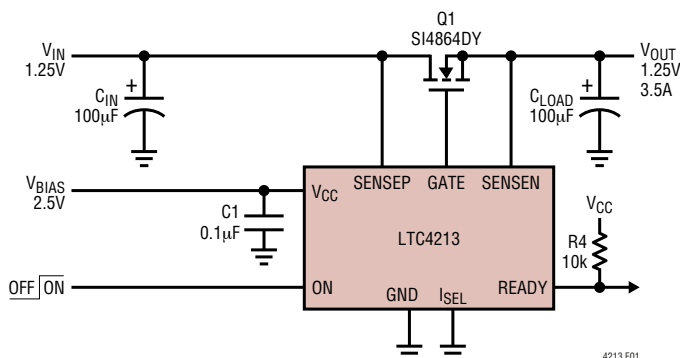
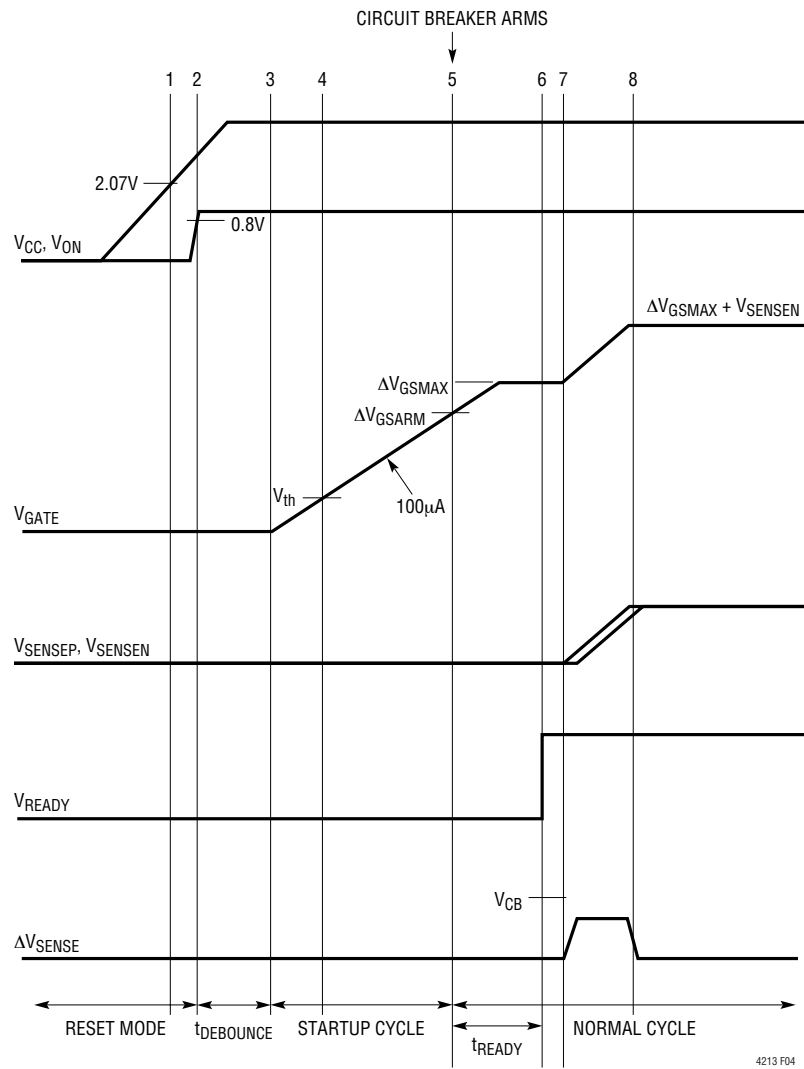
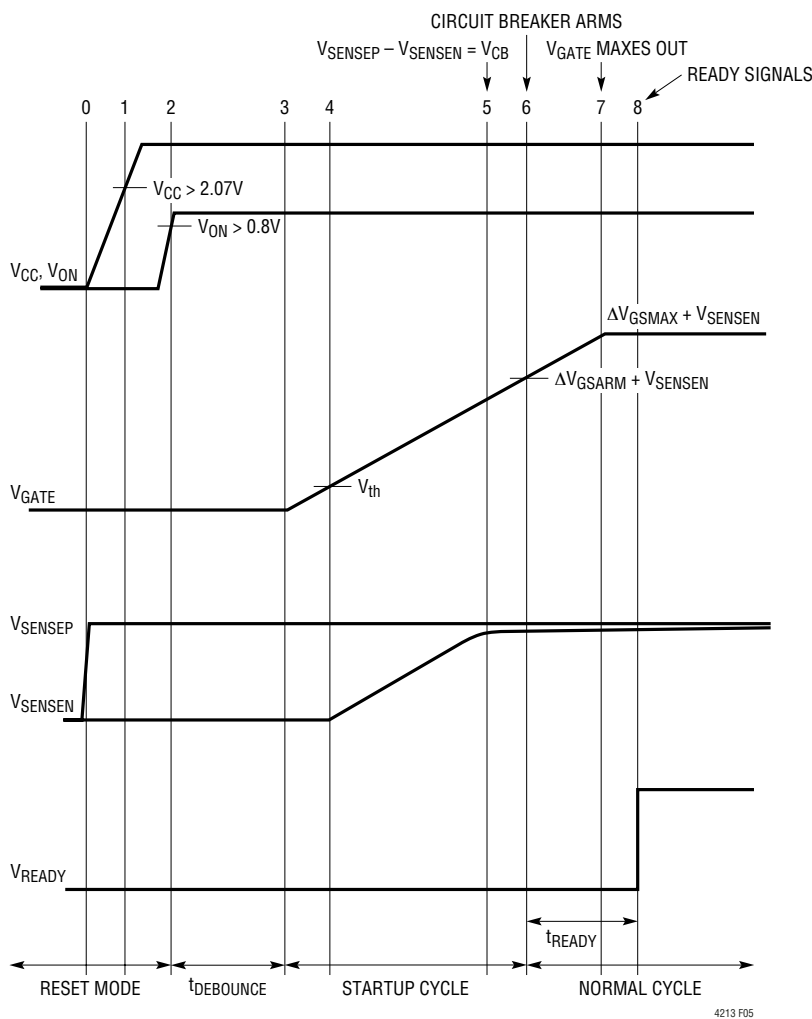

Figure 1. LTC4213 Electronic Circuit Breaker Application
Figure 4. Load Supply Power-Up After Circuit Breaker Armed
Figure 5. Load Supply Power-Up Before  $V_{CC}$
Figure 1 shows an electronic circuit breaker (ECB) application. An external auxiliary supply biases the  $V_{CC}$  pin and the internal circuitry. A  $V_{IN}$  load supply powers the load via an external MOSFET. The SENSEP and SENSEN pins
Figure 4 shows a normal power-up sequence for the circuit in Figure 1 where the  $V_{\text{IN}}$  load supply power-up after circuit breaker is armed.  $V_{\text{CC}}$  is first powered up by an auxiliary bias supply.  $V_{\text{CC}}$  rises above 2.07V at time point 1.  $V_{\text{ON}}$  exceeds 0.8V at time point 2. After a 60 $\mu\text{s}$  debounce delay, the GATE pin starts ramping up at time point 3. The external MOSFET starts conducting at time point 4. At time point 5,  $V_{\text{GATE}}$  exceed  $\Delta V_{\text{GS ARM}}$  and the circuit breaker is armed. After 50 $\mu\text{s}$  ( $t_{\text{READY}}$  delay), READY pulls high by an external resistor at time point 6. READY signals the  $V_{\text{IN}}$  load supply module to start its ramp. The load supply begins soft-start ramp at time point 7. The load supply ramp rate must be slow to prevent circuit breaker tripping as in equation (8).
Referring back to Figure 1, the  $V_{IN}$  load supply can also be powered up before  $V_{CC}$ . Figure 5 shows the timing diagram with the  $V_{IN}$  load supply active initially. An internal circuit ensures that the GATE pin is held low. At time point 1,  $V_{CC}$  clears UVLO and at time point 2,  $ON$  clears 0.8V. 60 $\mu$ s later at time point 3, the GATE is ramped up with 100 $\mu$ A. At time point 4, GATE reaches the external MOSFET threshold  $V_{TH}$  and  $V_{OUT}$  starts to ramp up. At time point 5,  $V_{SENSEIN}$  is near its peak. At time point 6, the circuit breaker is armed and the circuit breaker can trip if  $\Delta V_{SENSE} > V_{CB}$ .
There is no current limit monitoring during output charging for the figure 5 power-up sequence where the load supply is powered up before  $V_{CC}$ . This is because the GATE voltage is below  $\Delta V_{GSARM}$  and the MOSFET may not reach the specified  $R_{DS(ON)}$ . The  $V_{IN}$  load supply should have sufficient capability to handle the inrush as the output charges up. For proper startup, the final load at time